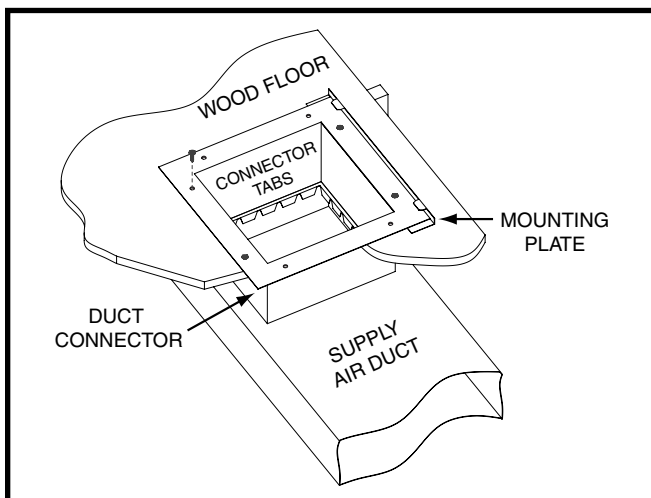

Figure 8. Standard Duct Connector Installed
Duct connectors are recommended for heated air distribution in under-the-floor duct systems. With this system, furnaces may be installed on combustible flooring without a separate sub-base. The furnace rear mounting plate (Figure 8 (page 10)) supplied with the duct connectors is recommended for use with this type of installation.
- Mark the cut-out area on the supply air duct by tracing around the connector tabs of the duct connector. See Figure 8.
- Install the mounting plate (Figure 8) under the back side of the duct connector. Align the screw holes in both components.